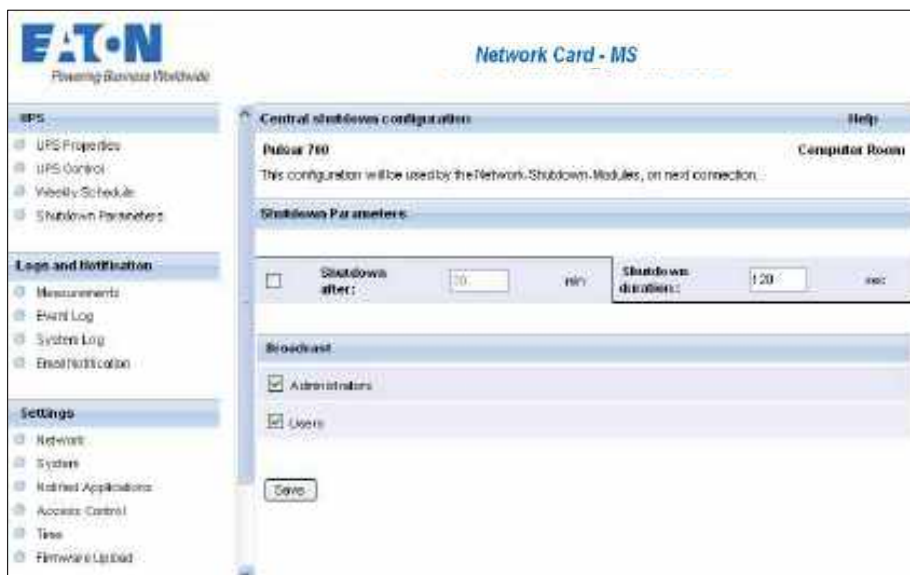

Figure 34. Central Shutdown Configuration Page
2. Select the **Configuration** column head in the Notified Applications table to open the Central Shutdown Configuration page (see Figure 34).